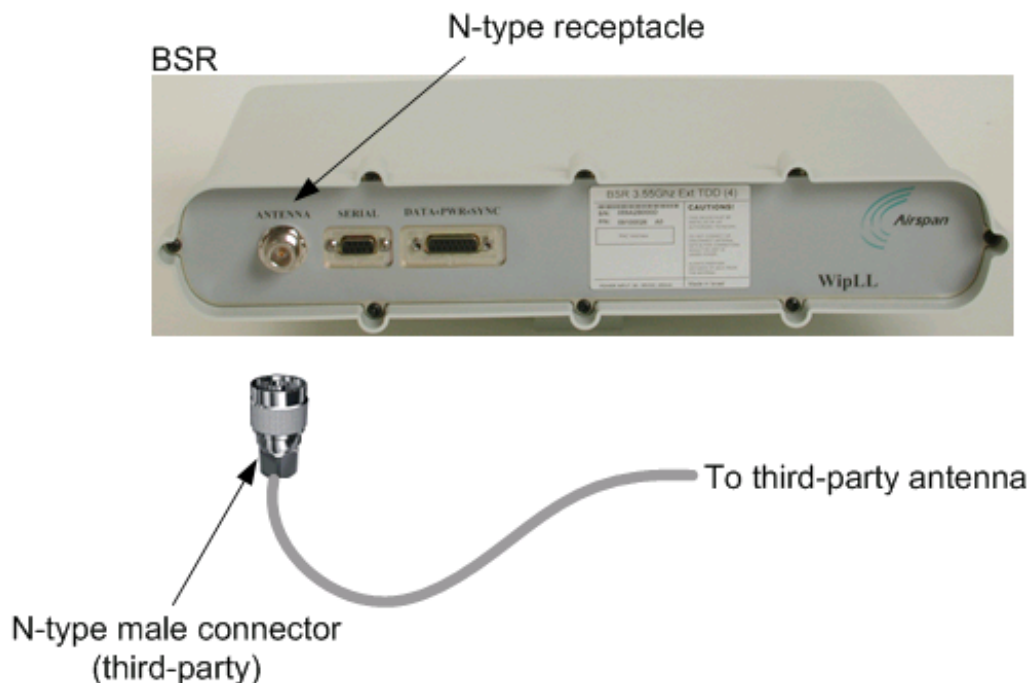

Figure 6-10: Attaching third-party external antenna
- Attach the third-party **N-type male** connector, at the end of the RF cable, to the N-type socket located on the BSR's front panel, as displayed in Figure 6-10.